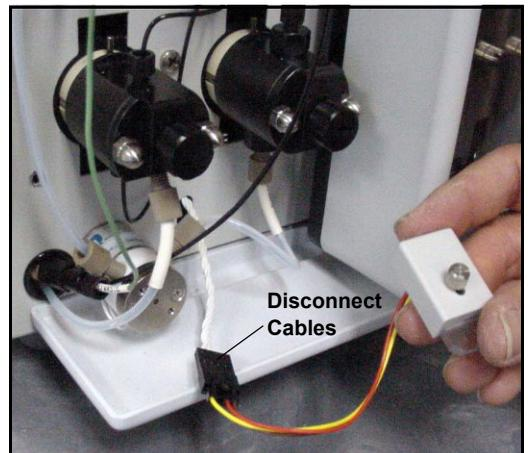

Figure 5-27. Leak Sensor Cable
5. The cable attached to the leak sensor connects to a cable inside the ICS-2000. Continue pulling the cable until the connectors for the two cables are outside of the panel (see Figure 5-27).